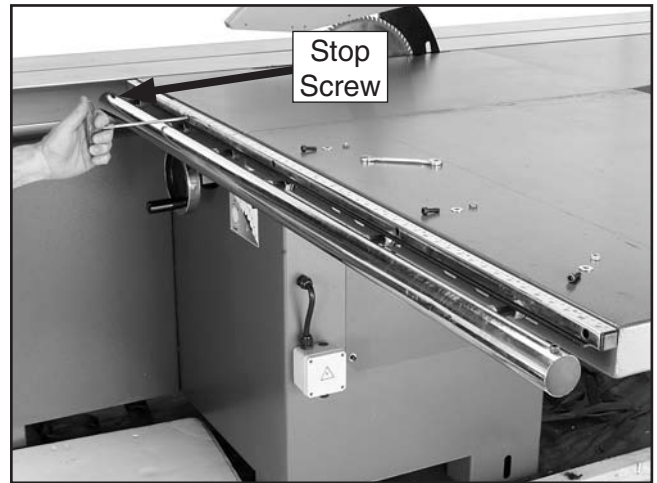

Figure 23. Attaching the scale.
3. Align the square tube w/scale parallel with the top of the table and secure with the cap screws (see **Figure 23**). Secure the cap screws in the extension table with M6-1 hex nuts and flat washers.